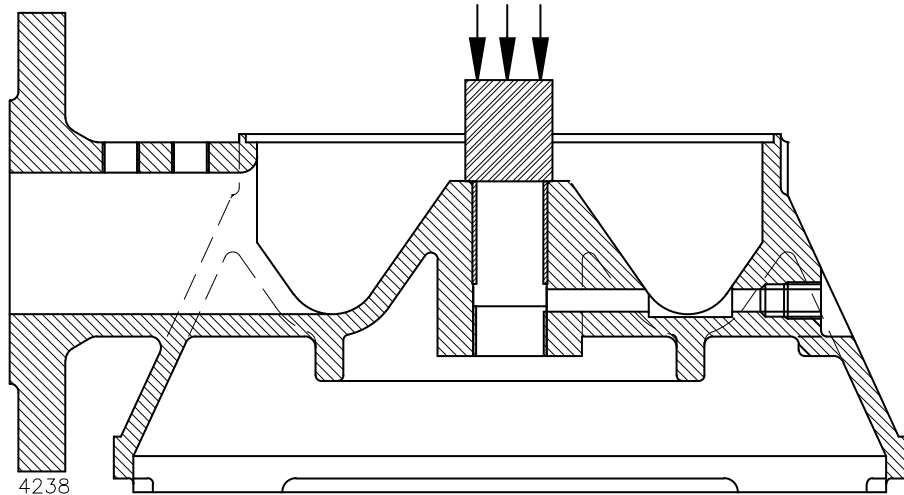

Figure 7: Mounting of slide bearing.
- 1 Place some liquid locking agent Loctite 641 in the bearing seat and press the slide bearing (0140) into the inlet casing (0020) using a suitable mounting bush, see figure 7.